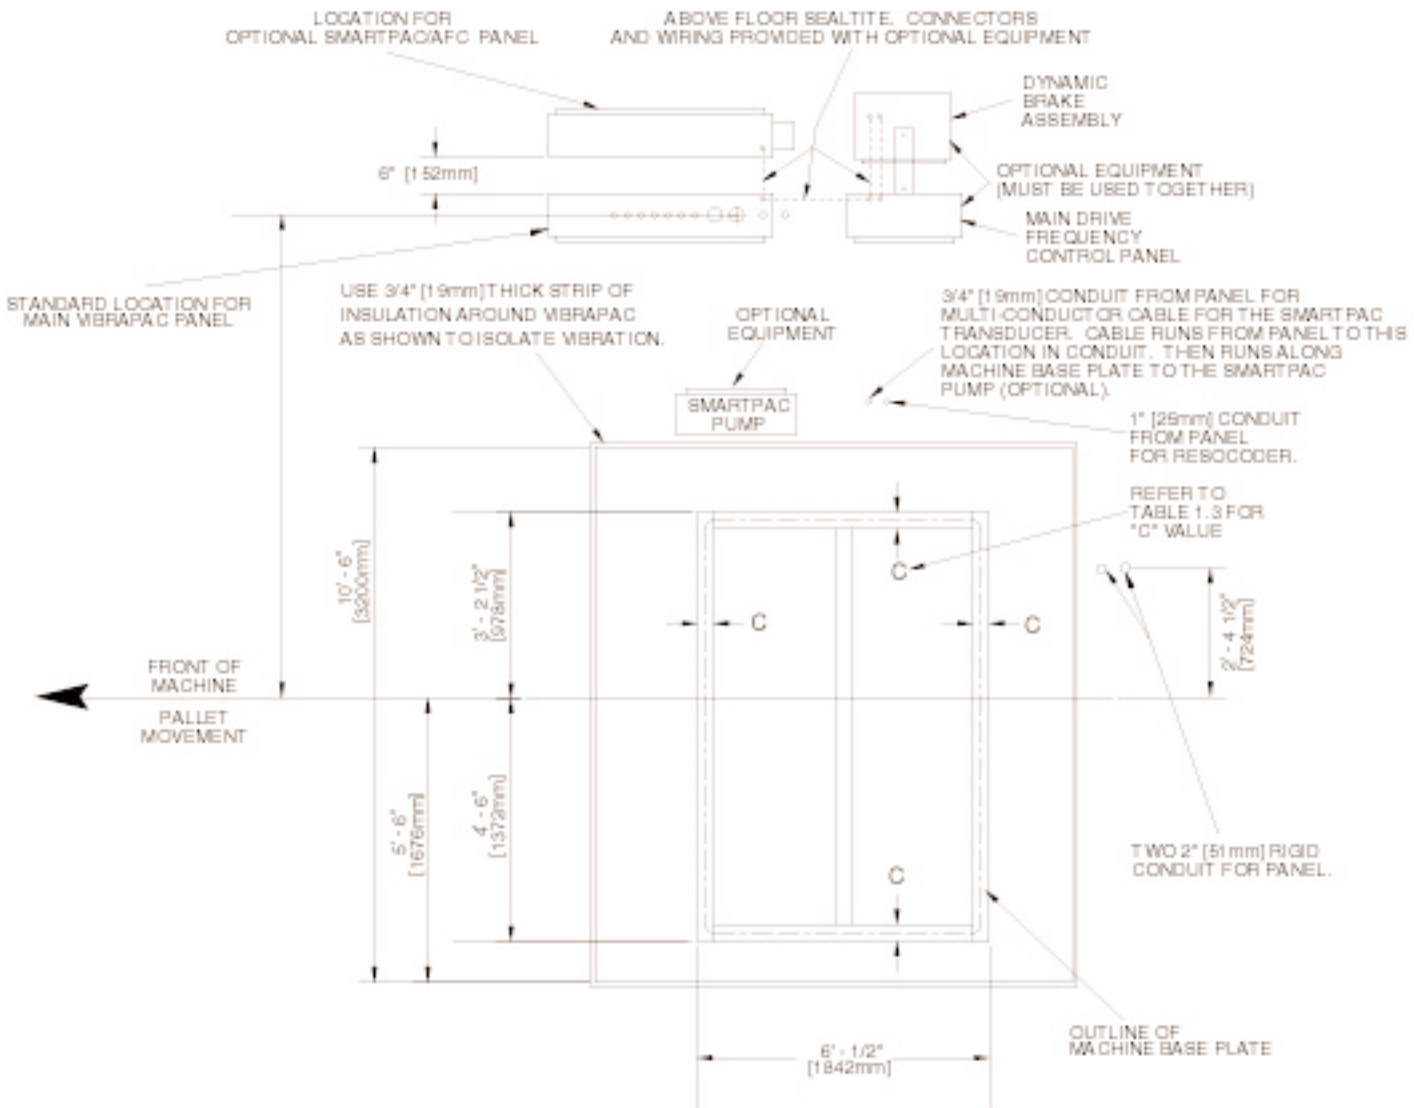

Figure 1.4 TOP VIEW (PALLET ENTRANCE ON RIGHT HAND SIDE OF MACHINE).
- The electrical panel can be installed on any side of the machine but is usually installed on the opposite side of unloader (see figure 1.4). It can also be installed in any location to accommodate specific plant layout. In a hot and/or humid weather area, all controls should be placed in a closed and air conditioned room
- A conduit for electrical panel can be installed as shown on figure 1.4.
- A conduit for the resocoder must also be installed as shown on figure 1.4.